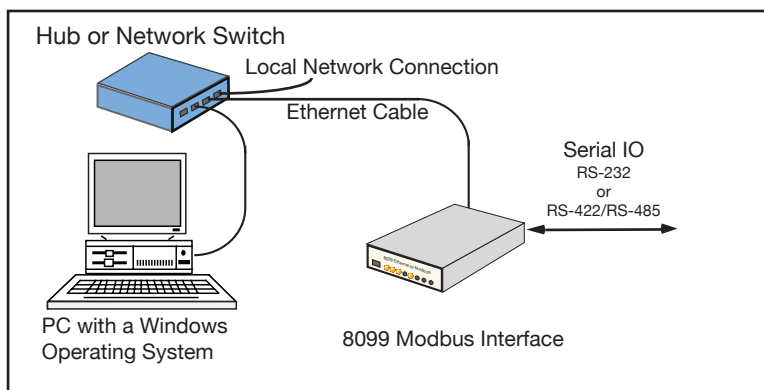

Figure 2-1 8099 with Local or Benchtop Connection
2. Place the 8099 where it is to be used. If you use it on your workbench you will probably connect it as shown in Figure 2-1. Use a standard LAN cable to connect the 8099 to a local switch or router. Plug the LAN cable into the RJ-45 receptacle on the 8099's rear panel.
Alternately use a standard Ethernet Cable to connect the card to the same hub or switch that the computer running the browser is connected to as shown in Figure 2-1. Temporarily disconnect any local network connection to avoid network conflicts until the module is configured.